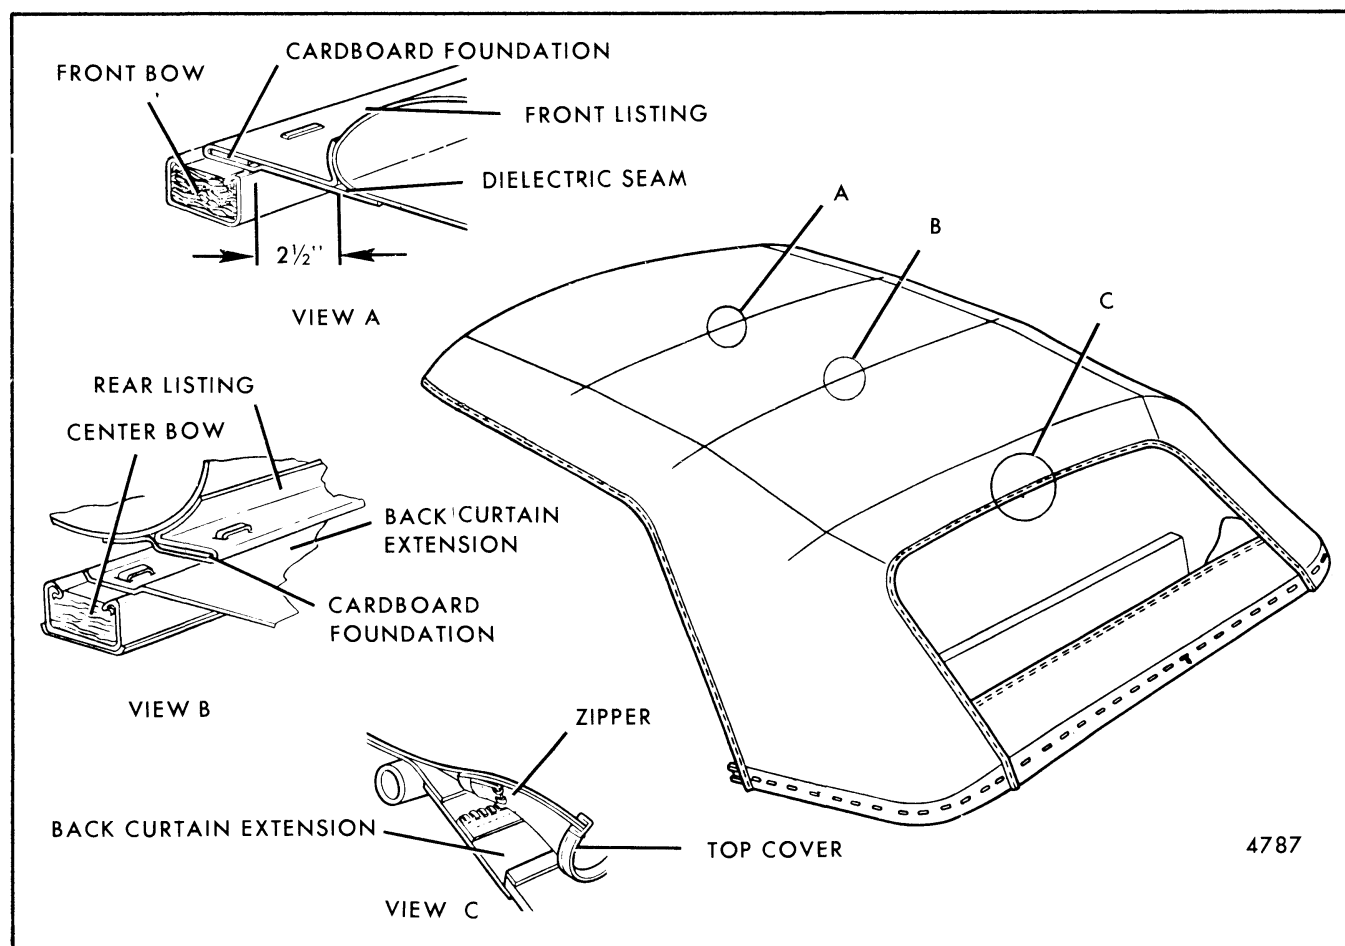

Fig. 8-61-Top Cover Attachment At Front And Center Roof Bows
11. Turn front of top cover rearward for access to front listing. Detach front listing from front roof bow (View "A", Fig. 8-61).
12. Unzip top cover from back curtain (View "C", Fig. 8-61).
13. Turn rear of top cover forward for access to rear listing. Detach rear listing from center bow (View "B", Fig. 8-61) and remove top cover.
5. Transfer cardboard foundations from original top cover, or install replacement foundations in front and center bow listing pockets as shown (View "A" and "B", Fig. 8-61).
7. Position center of top cover rear listing on center bow and staple or tack in place. Space fasteners about (2) inches apart (View "B", Fig. 8-61).
8. Zip top cover to back curtain (View "C", Fig. 8-61).
13. Secure top cover front listing to front roof bow as follows (Fig. 8-61):
- C. Secure listing in place with staples or tacks spaced about two (2) inches apart. Distance from end of foundation to center of dielectric seam should be about 2-1/2 inches as shown in View "A", Figure 8-61.
11. Unzip top cover from back cover (View "C", Fig. 8-61).
12. Turn rear of top cover forward for access to rear listing. Detach rear listing from center bow (View "B", Fig. 8-61).
13. Turn front of top cover rearward for access to front listing. Detach front listing from front roof bow (View "A", Fig. 8-61) and remove top cover.